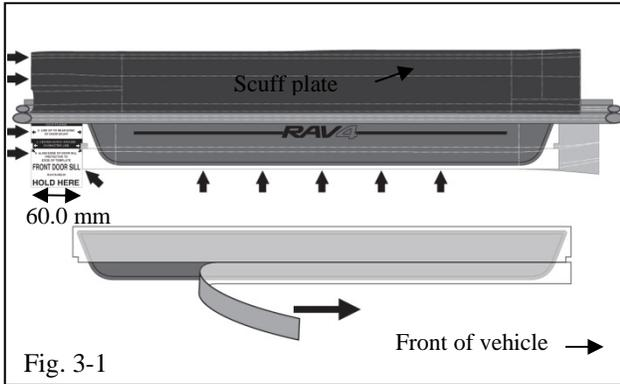

Fig. 3-1
- STOP** (b) Align the edge of Front Door magnetic template to the rear edge of the scuff plate or measure over 60.0 mm from the rear edge of the scuff plate and place masking tape (Fig. 3-1).
- (c) Align the edge of the liner to the template or masking tape. Align the notches in the liner with the character line. Do not let the part wrap past the outside edge of the radius (Fig. 3-1).
- (d) Lift part slightly from front and carefully remove bottom liner (Fig. 3-1).